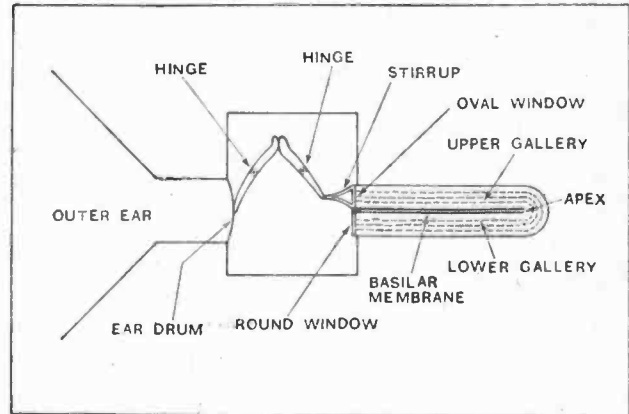

Fig. 5.—The action of the ear demonstrated by means of a mechanical model.
**Fig. 5.**—Coupling efficiency—frequency characteristics. In Fig. 5 the effect of varying valve resistance is shown. Curve A is for a nominal resistance of 5,000 ohms; curve B for 20 per cent. increase and curve C for 20 per cent. reduction (i.e. 6,000 and 4,000 ohms respectively).  $C = 4$  mfd.;  $L = 45$  henrys;  $R = 20,000$  ohms. **Fig. 6.**—The effect of varying inductance. Curve A = 45 henrys; B = 11 per cent. reduction = 40 henrys; C = 11 per cent. increase = 50 henrys.  $R_a = 5,000$  ohms;  $R = 20,000$  ohms;  $C = 4$  mfd. **Fig. 7.**—Varying capacity values. Curve A = 4 mfd.; B = 25 per cent. reduction = 3 mfd.; C = 50 per cent. reduction = 2 mfd.  $R_a = 5,000$  ohms;  $R = 20,000$  ohms;  $L = 45$  henrys.
coupling efficiency-frequency curves, as may be seen from Figs. 5, 6 and 7, which shows the effect of such deviation from the nominal values as are likely to occur in practice.
A mechanical model, Fig. 5, may be constructed to represent what is generally believed to be the mode of action of the ear. When a puff of air strikes the outer ear the drum and the lever system move forward so that the stirrup transmits pressure to the liquid in the upper gallery; the motion is communicated through the opening at the apex to the lower gallery, and the round window bulges slightly in consequence. In addition, of course, the pressure may be partly relieved by yielding of the basilar membrane, and if a pure tone of given frequency is used we would expect that any portion of the basilar membrane which is tuned to this frequency would be set into resonance, and convey a message to the brain by the nerves which are attached to it. This indeed was the original brilliant suggestion of Helmholtz, and is a remarkable instance of scientific foresight. He recognised that the only known way of analysing